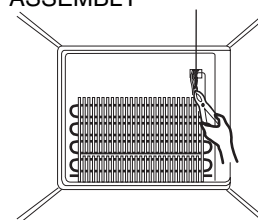

Figure 2
2. Separate the connector with the Defrost Control assembly and replace the Defrost Control assembly after cutting the Tie Wrap. (Figure 2)